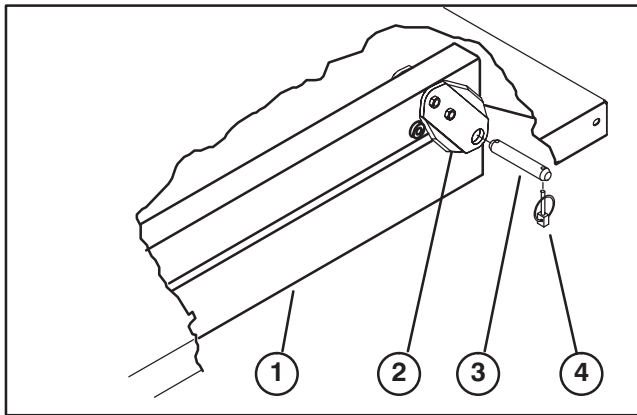

Figure 3
2. Remove clevis pin and (2) lynch pins securing each set of pivot plates to frame channels (Fig. 3).